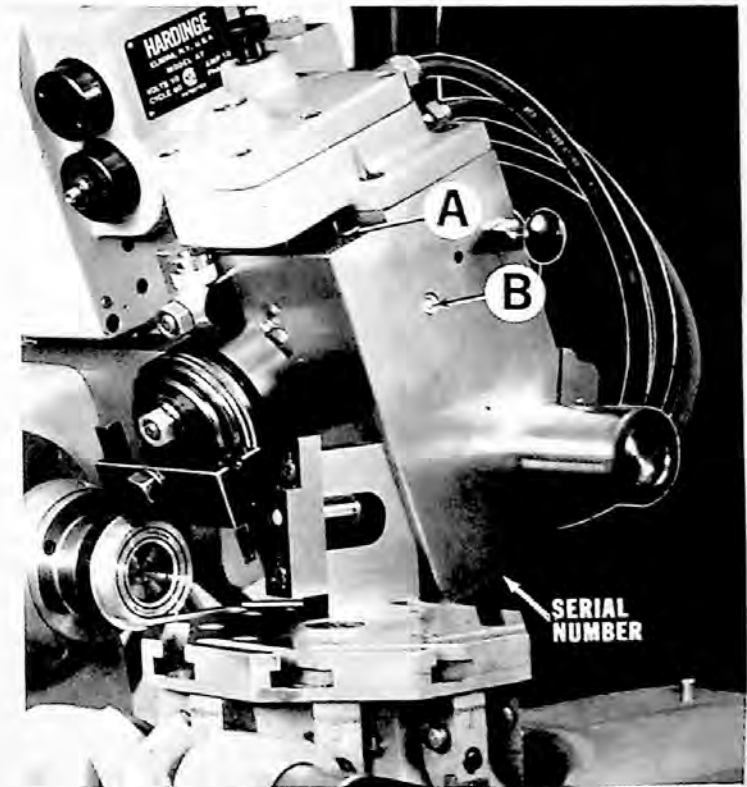
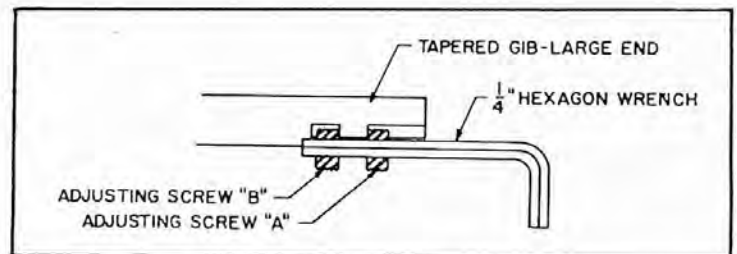

Figure 45 — Setting Threading Head Angle
Figure 46 — Taper Gib Adjustment
20. With threading head engaged pull cycle start knob and while holding threading head, loosen two bolts "H", Figure 23. Set threading head at 20° off vertical Figure 45. Tighten bolts "H".
After considerable use it may be necessary to adjust the tool post slide gib. The gib is the tapered type and adjustment is made from the large end shown in Figure 45.
2. Insert  $\frac{1}{4}$ " hexagon wrench in adjusting screw "A", Figure 45 and Figure 46. Loosen one full turn.
3. Push wrench on through into adjusting screw "B", Figure 46. Advance adjusting screw "B" a fraction of a turn.
**OIL CUP "B"**, Figure 45, ON SIDE OF CHASING HEAD should be filled weekly with Mobil Velocite No. 6 for lubrication of slide stop pin and cam.
The serial number for the automatic threading unit is located on the underside of the attachment on the dovetail of the main casting, Figure 45. This serial number should be included in all correspondence regarding this unit.